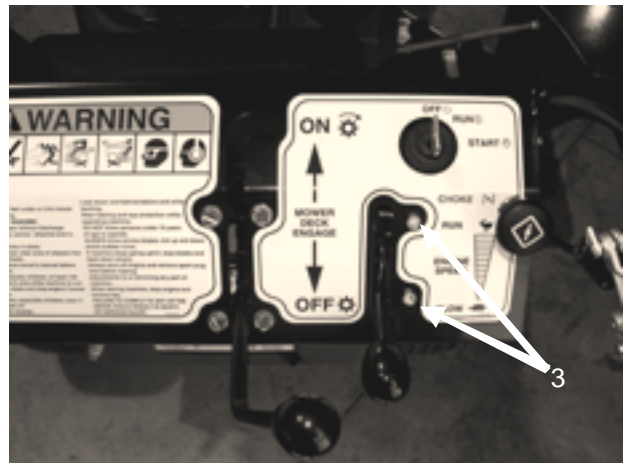

Figure 55
3. Using a 3/8 wrench and 5/16 socket, remove the throttle control bracket from dash panel **Figure 55**.